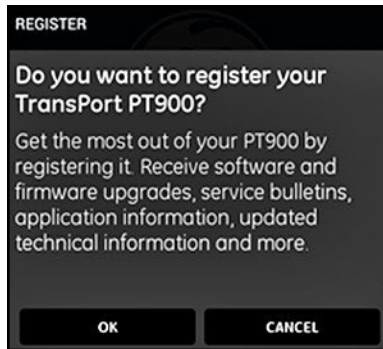

Figure 62: PT900 Registration
- At the Registration screen (see Figure 62 below), click OK to register your PT900 or click CANCEL to skip the registration.